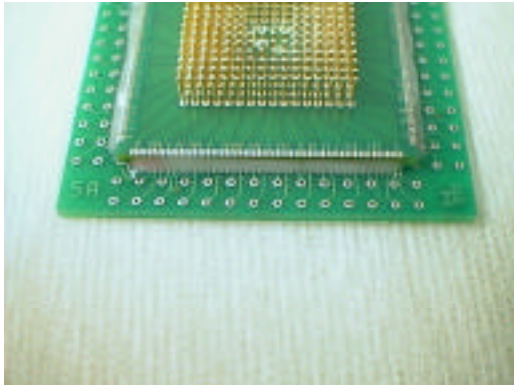

Figure 4: Applying Flux
(3) Holding the adapter in place, by pressing down gently, use the soldering iron and tack the four corner pads with the aid of a microscope. This will keep the foot in alignment.
(4) Apply a generous amount of flux along the side of the adapter PCB as shown in Figure 4.